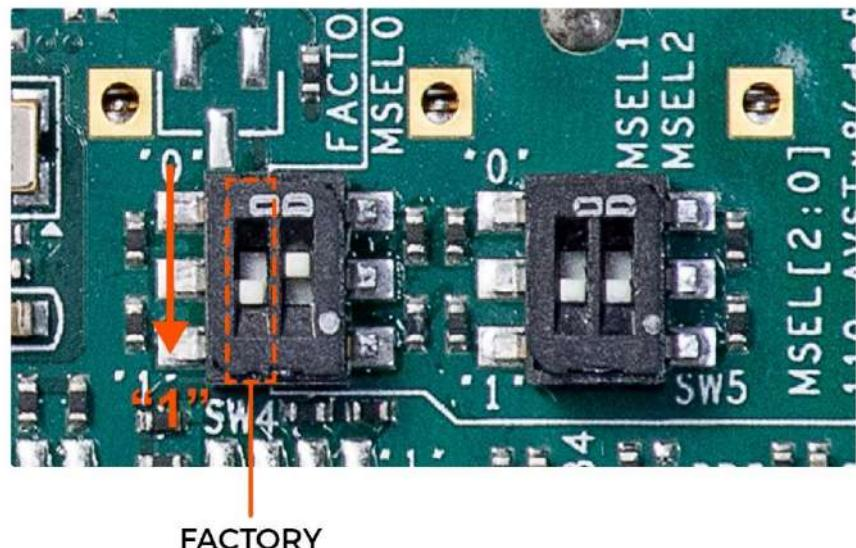

Figure 3-3 Configuration Image Selection
3. Specify the configuration of the FPGA using the default Factory Configuration Image or User Configuration Image by setting SW4 according to Figure 3-3. When the switch is in position “1”, the factory image is used when the system boots. When the switch is in position “0”, user image is used when the system boots.